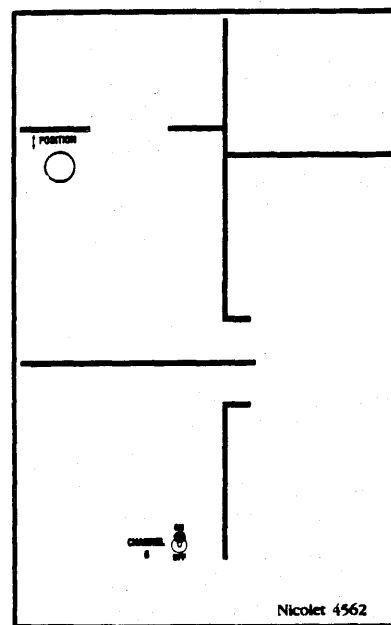

Figure 6-5
- #5. Adjust the Channel A POSITION control (Figure 6-5) until the trigger cursor, trace, and horizontal cursor move to approximately the center of the screen.
- #6. Turn on Channel B (Figure 6-5).